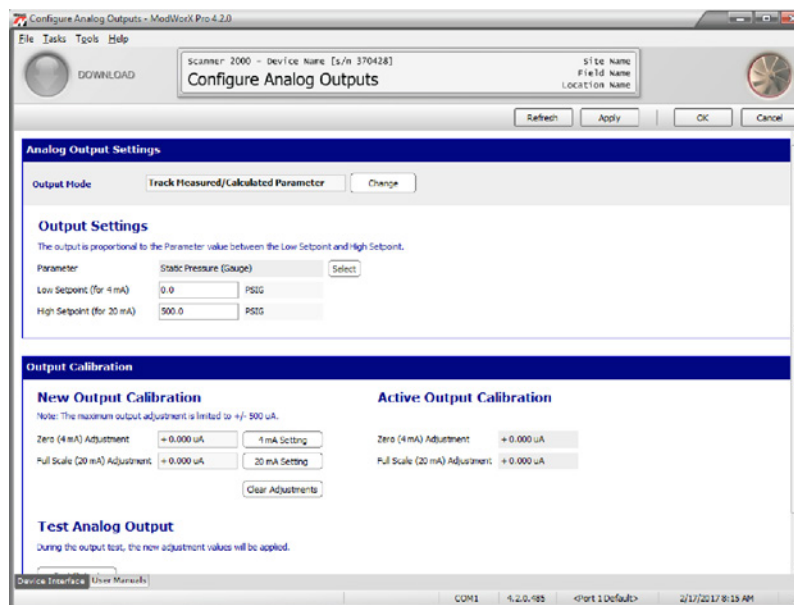

Figure 7.24
1. From the Configure Analog Outputs screen, select the parameter to be represented by the 4-20 mA output in the Parameter field (Figure 7.24). By default, Flow Run 1 Flow Rate will appear in this field.